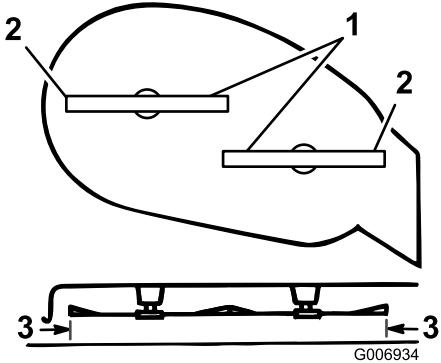

Figure 46
5. Carefully rotate the blades side to side (Figure 46).
6. Measure between the outside cutting edges and the flat surface (Figure 46). If both measurements are not within $3/16$ inch (5 mm), adjust them; refer to 7 through 10.